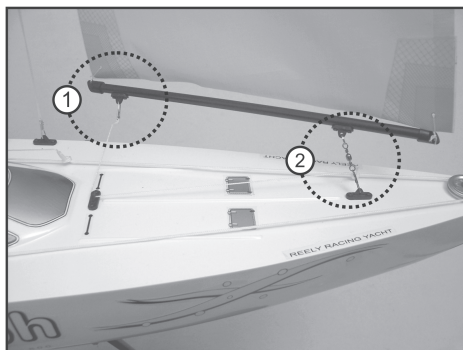

Figure 8
Install the head sail to the boat deck with rope and hook as shown in figure 8, item 2.
Attach the control rope to the „boom“ of the headsail as shown in figure 8, item 1. This controls the angle of attack of the sail (as in the mainsail).